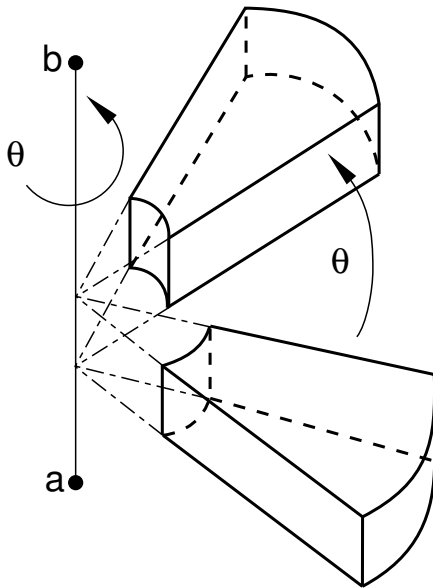

Figure 1: Matrix subassembly rotation.
2. Global X-coordinate of point *a* on the axis of rotation (see Figure 1).